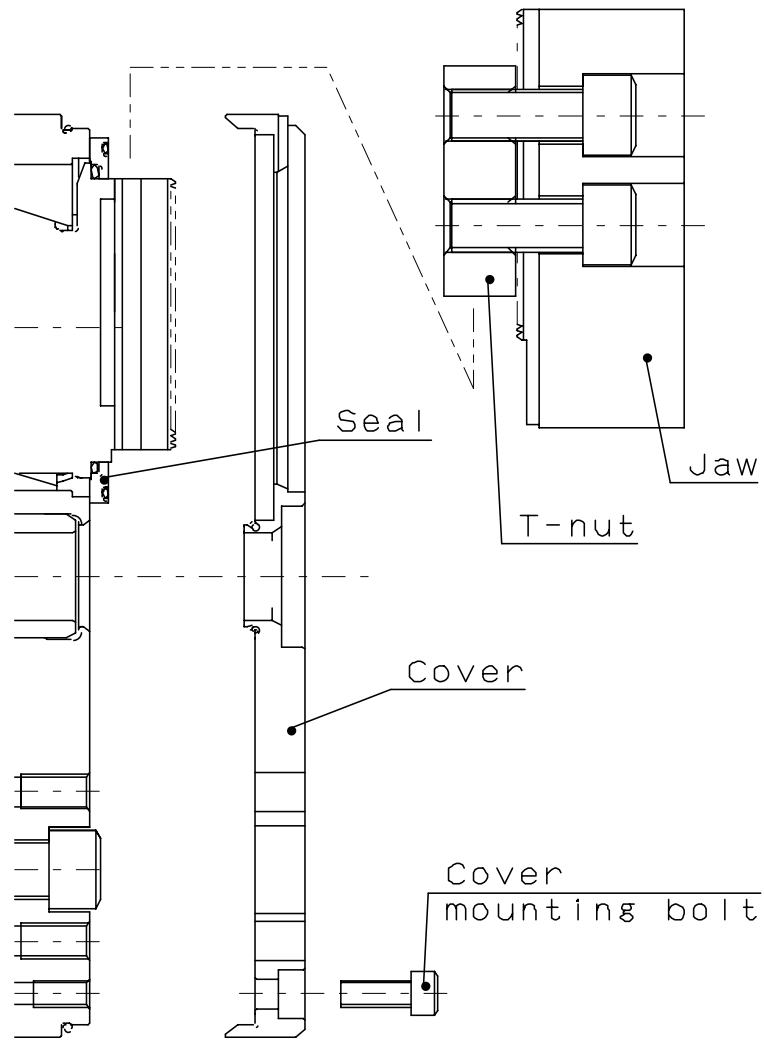

Fig.23
4. Remove cover mounting bolts to remove the cover.(Fig.23)